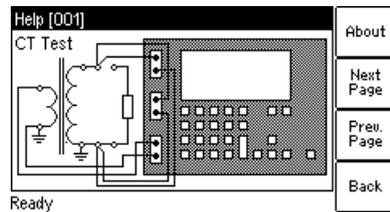

Figure 7-14 CT Analyzer help page for CT test wiring
7. Press the **?** key to open the help page showing the connection diagram and change the wiring to connect the *CT Analyzer* for the CT test as shown in Figure 7-14.